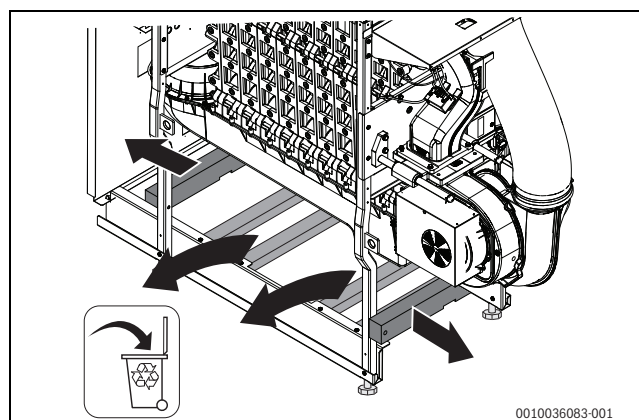

Fig. 17 Remove the transport timbers (example for illustration purposes)
- Remove the 4 transport timbers between the tie bars (→Fig. 17).
- Remove the front and rear cross bars on the boiler frame (→Fig. 17).